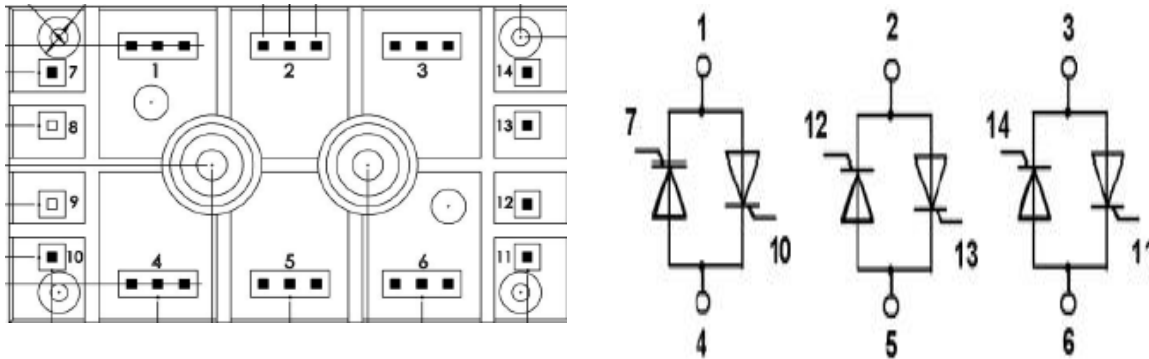

Figure 1 30KVA Bypass SCR
1. Measurement for NS3030 the bypass SCR figure 1.